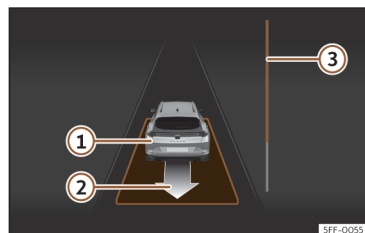

Fig. 184 On the instrument panel display: exit a parallel parking space.
- Reverse until the continuous ParkPilot signal sounds; **OR:** reverse until the instrument panel display shows the forward indication. The progress bar  **Fig. 184**  indicates the distance to cover  page 281.